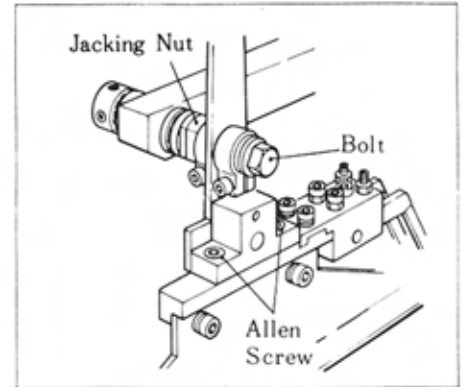

Figure 7
2. Patch Guide Adjustments (Figures 7, 8 and 9)
- (b) To align the patch guide so that it is parallel to the clamp feet, loosen the two allen screws (see Figure 7) on top of the patch guide bracket. This will allow the patch guide to pivot for proper alignment. Spacing between the patch guide and the clamp foot should be approximately 1mm.
- (c) To center the patch guide to the needles, loosen the collars on the front of the patch guide pivot arm. To move the patch guide to the right, screw the jacking nut (left side of the left collar) counterclockwise. To move to the left, turn the jacking nut clockwise and tighten the bolt at the shaft right end (see Figure 7).